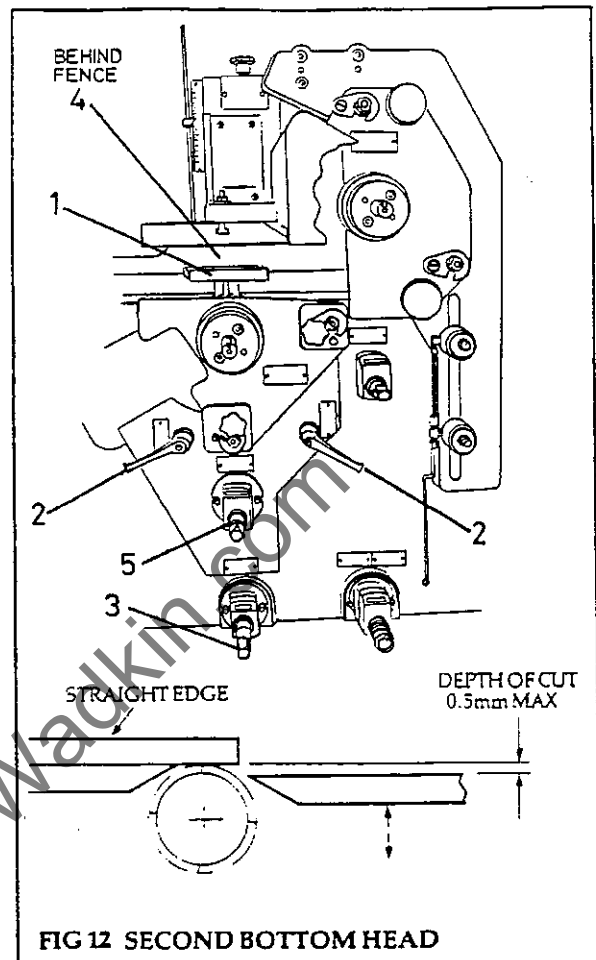

FIG 12 SECOND BOTTOM HEAD
**SECOND BOTTOM HEAD** (Fig 12)-if fitted
- (1) Ensure the bed is clean.
- (2) Using a straight edge (1) placed on the outfeed bed plate set the cutterblock knives to just touch the underside.